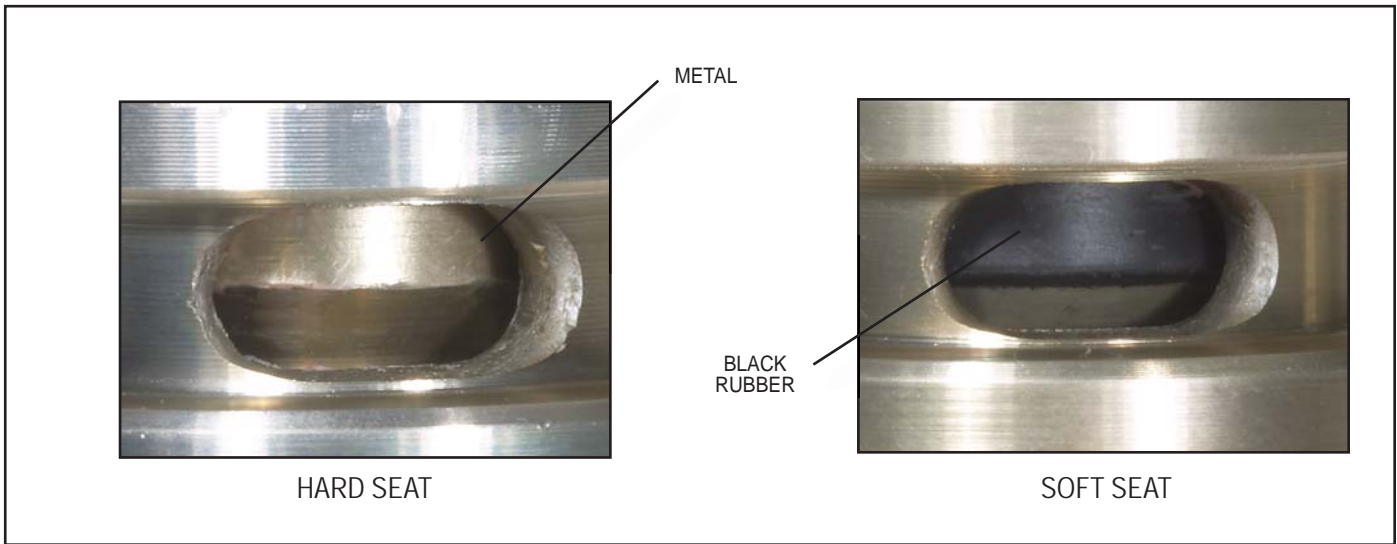

FIGURE 7- IDENTIFICATION OF HARD AND SOFT SEAT PURGE VALVES
- The purge valves in both dryers must have soft-seat turbo cut-off valves. See Figure 7. Remove the purge valve and examine the upper window, replace with soft seat purge valve.